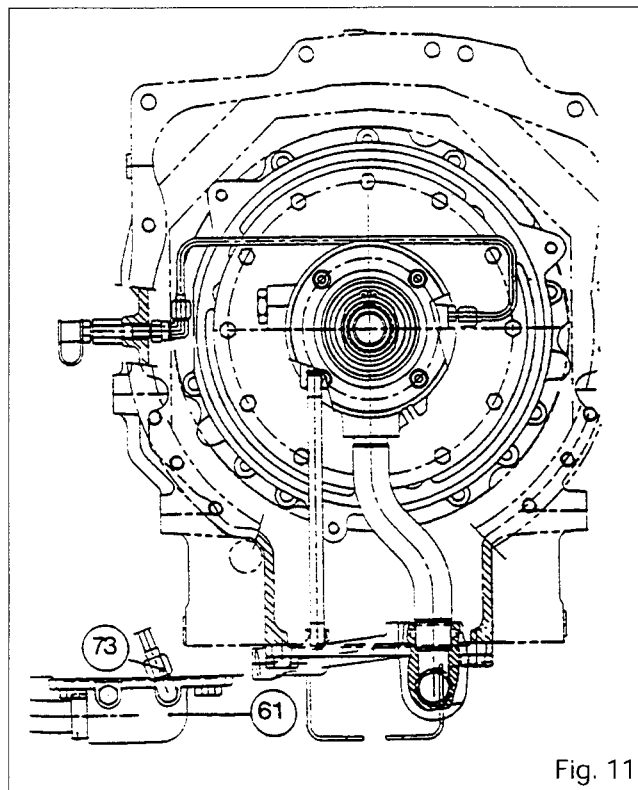

Fig. 11
- on cover (76) align the connection holes between the clutch and the gearbox housing.
- tighten the bolts (77) to between 25 and 35 Nm,
- pipe (73) (clutch supply) (Fig. 11).